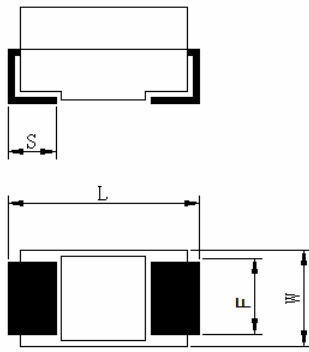
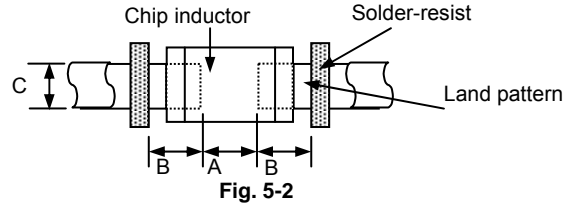

Fig.5-1
Fig. 5-2
- c) Dimensions and recommended PCB pattern for reflow soldering: See Fig.5-1, Fig.5-2 and Table 5-1